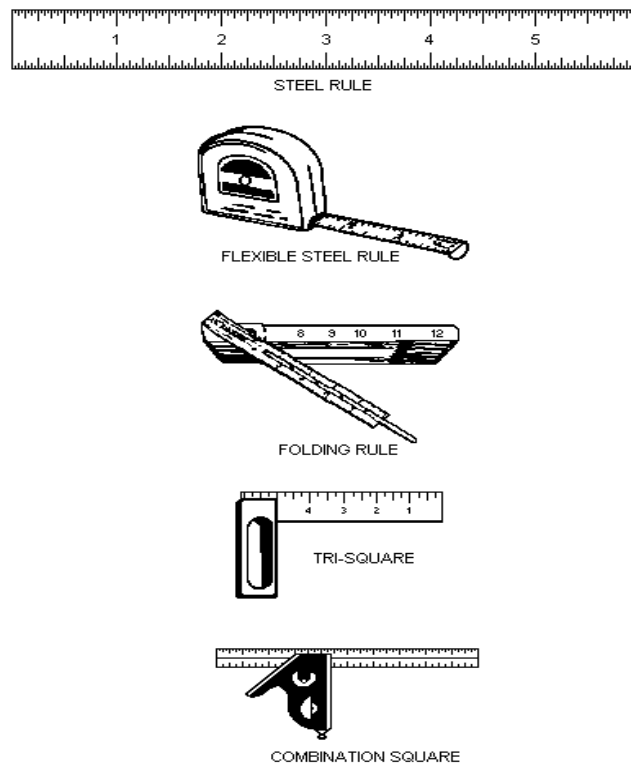

Figure 21, Rules and Tapes
- **Steel Rule.** The simplest measuring tool is the steel rule. Steel rules are non-flexible and are made in various lengths, usually six (6) or twelve (12) inches (See Figure 21).
- **Folding Rule.** The folding rule is available in lengths of six and ten feet. The HVAC/R mechanic must work carefully when unfolding the rule to prevent cracking or breaking the joints. If the joints become hard to operate, place a few drops of oil on each joint and remove excess oil with cloth. If the joints become excessively worn, you must be very careful or the joint will break when unfolding. Keep rule clean and protect the numbers at all times. A rule that has numbers which are not visible slows work progress(See Figure 21).
- **Flexible Steel Rule and Tape.** Flexible steel rules and tapes are used by the HVAC/R mechanic to measure short and long lengths of pipe or when laying out a job (See Figure 21). These flexible steel measuring tools must be kept clean and dry. Any dirt or sand on them tends to wear away the numbers and rust the steel. You must be careful when using the measuring tools to prevent kinking. A rule with a kink will not operate correctly. The bent part rubs against the housing when reeling the rule in and out, soon causing it to break. A very light oil should be used on the steel flexible measuring tools to keep them from rusting (See Figure 21).
- **Tri-Square and Combination Square.** The tri-square and combination squares are used to measure distances as well as angles. The tri-square consist of a steel rule with an extension at a 90° angle to the rule. The combination square is similar to the tri-square, but it has a moveable head (See Figure 21).